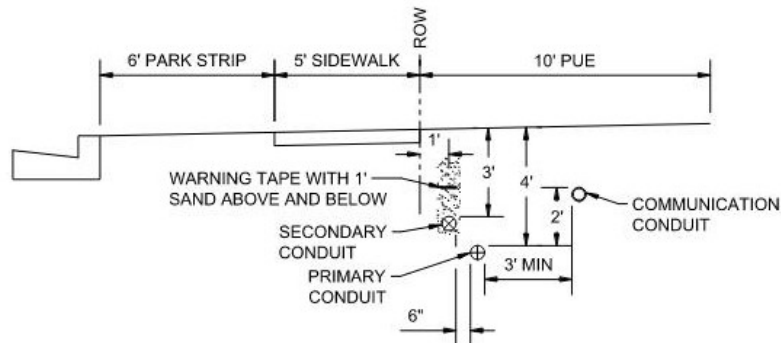

Figure 7-5.1 – Joint Trench Use Separation Requirements
- a. Telephone, TV, and other electrical communication cables may be placed in the same trench as the Utility cables, provided that the installation is in accordance with the Utility specifications and is mutually agreed upon by all parties concerned. See Figure 7-5.1.